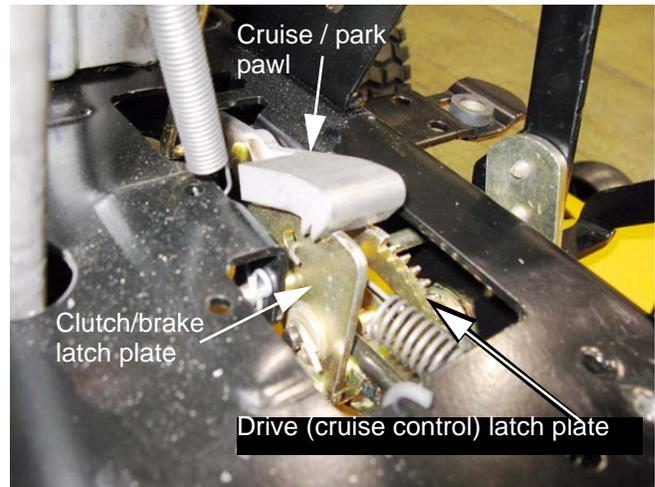

Figure 6.19
- The cruise control/park brake lever operates a common pawl that engages the latch plate of whichever pedal is applied. See Figure 6.19.